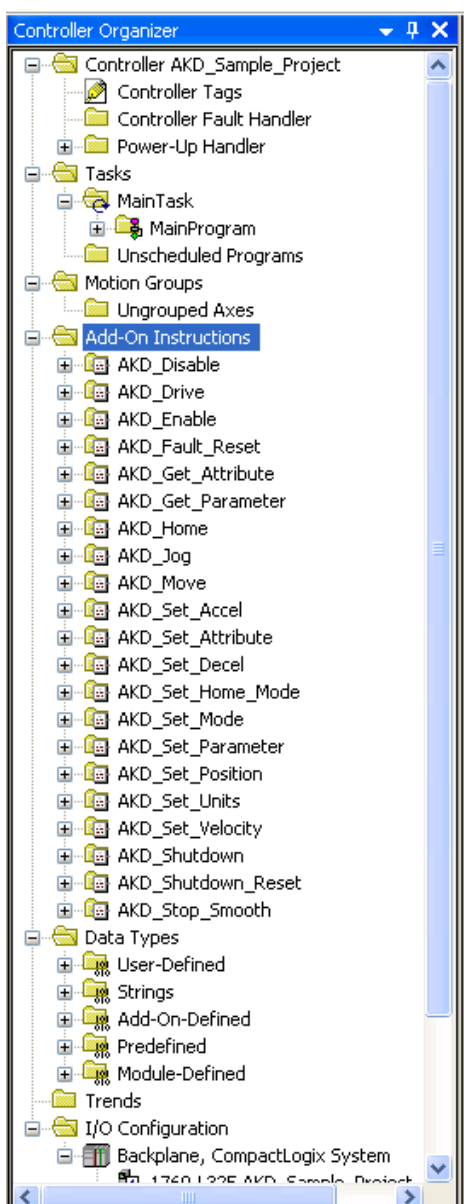

Figure 4-11: AOI's Successfully Imported
8. The instructions should now show up under the “Add-On Instructions” folder (Figure 4-11: AOI’s Successfully Imported)